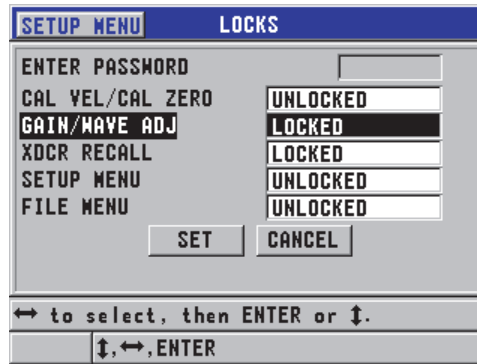

Figure 7-10 The LOCKS screen
2. In the **LOCKS** screen (see Figure 7-10 on page 140):